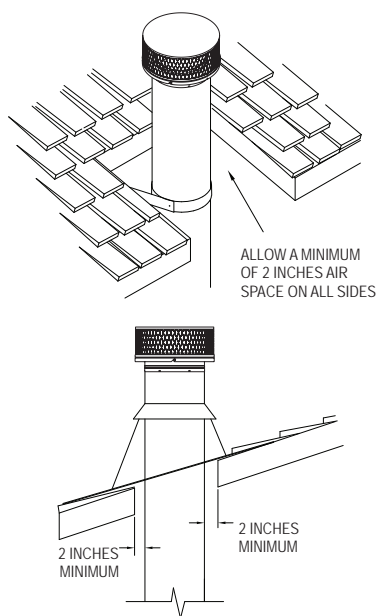

Figure 22
the wall with Wall Straps at 4-foot intervals to maintain at least 2 inches of clearance to combustible materials. Slip the Wall Straps around the chimney, tighten the bolts, and fasten the Wall Straps to the wall with (4) #8, 2-1/2" long wood screws. Once the chimney is at the minimum height specified in **Figure 1**, attach the Chimney Cap onto the top of the chimney by holding it by the collar and slipping the female end of the Cap onto the male end of the Chimney Pipe. Secure the Cap in place by using the (6) sheet metal screws provided. If the chimney penetrates an overhang, frame for at least 2 inches of clearance, and install Roof Radiation Shields (required for 18"-24" diameter chimney only), Flashing and Storm Collar as described in **Steps 7, 10 & 11** for Ceiling Supported Installations. Another option is to cut away the overhang for a 2-inch clearance (**Fig 22**). If the chimney extends more than 4 feet above the top Wall Strap or Flashing, use an Extended Roof Support Bracket.